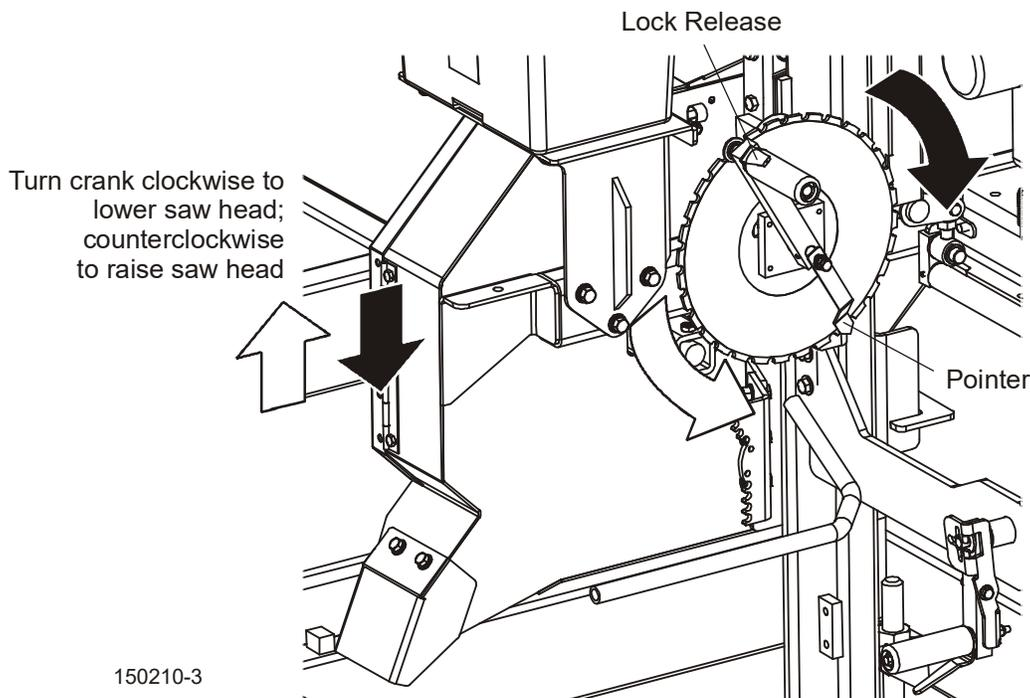

FIG. 5-14
10. Engage the lock pin at the end of the sawmill to secure the carriage. See FIG. 5-14.